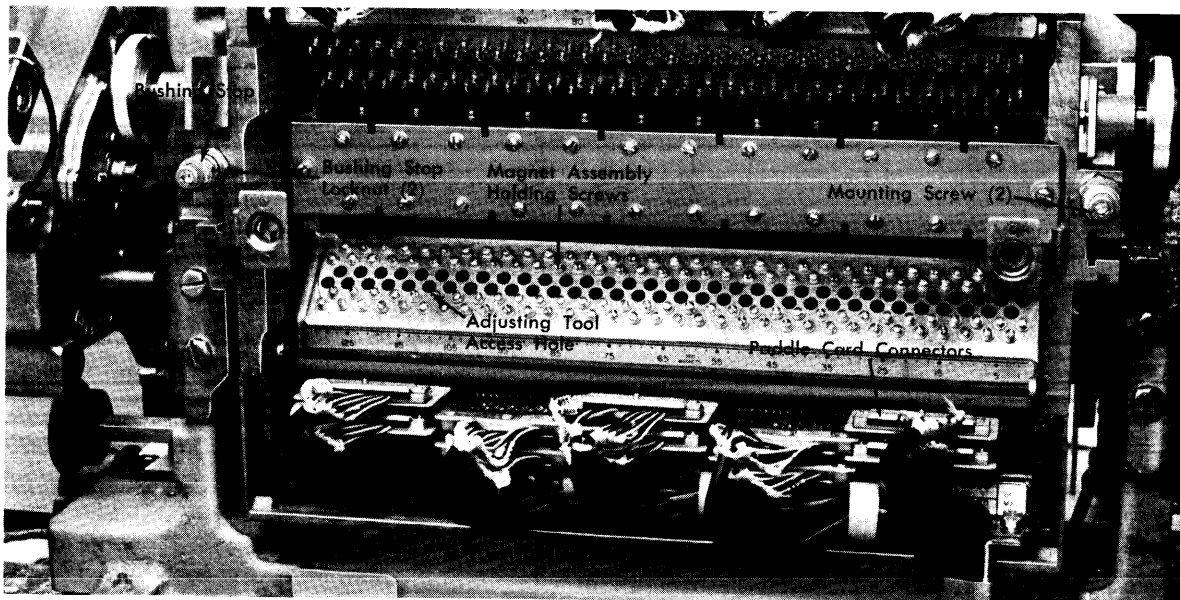

Figure 30. Hammer-Unit Assembly (Rear)
9. Remove the hammer-unit assembly holding screws (Figure 30).
- b. Loosen the two bushing-stop lock nuts (see Figure 30).
- b. Remove the holding screws for the hammer-magnet assembly (see Figure 30).